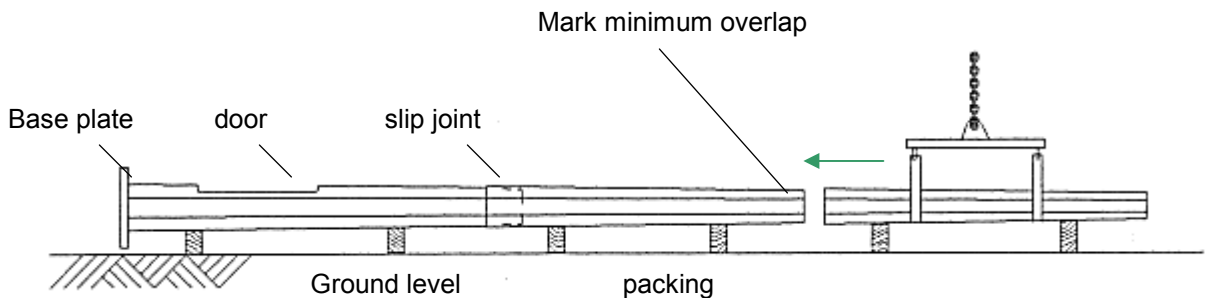

Fig 1
1) Lay the pole sections out on suitable packing material so that the underside of the pole will be in the horizontal position. The packing must be of sufficient height to ensure that the baseplate and headframe assembly are clear of the ground when the pole is assembled (See Fig 1) it is also important to ensure that packing is kept clear from the slip joint area, allowing for horizontal movement of the pole during assembly.